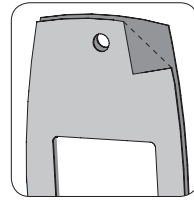

Fig. 5A
1. Carefully remove the backing from the gasket. (Fig. 5A).